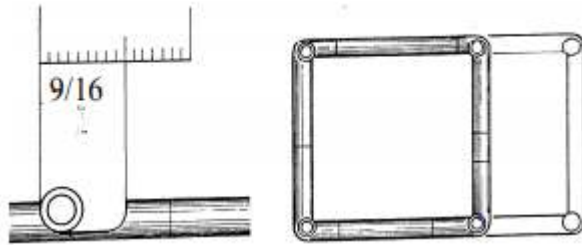

Fig. 3 Square collective bent mortise
- But the length of grooves is different. It is about $\frac{9}{16}$ of the perimeter of tube-tenon (Fig. 3).